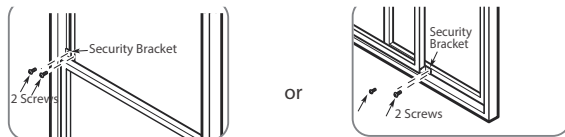

Fig. 11
4. If desired, install the security bracket with 2 screws as shown. (Fig. 11)